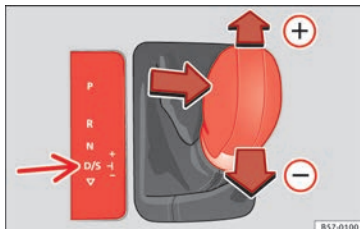

Fig. 192 Centre console: changing gear with tiptronic
- Move the selector lever forwards  to select a higher gear » **Fig. 192**.